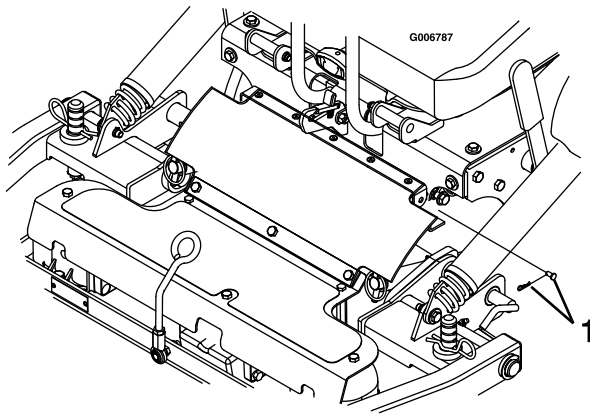

Figure 5
5. Align upper portion of the PTO rubber guard to the tabs on the front of the console and secure with a clevis pin and hairpin on each side (see Figure 5).
7. Remove hairpin and clevis from both sides of the PTO guard (see Figure 5).
2. Remove hair pins and clevis pins from both sides of the PTO guard (see Figure 5). Fold guard forward.